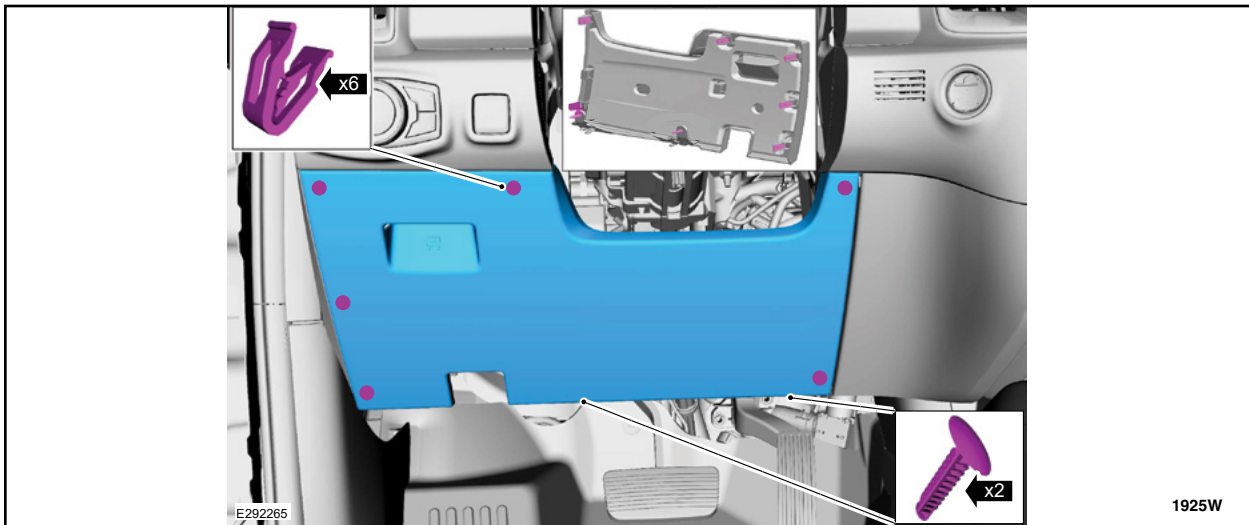

FIGURE 24
25. Release the clips, push pins and remove steering column opening trim panel. See Figure 24.